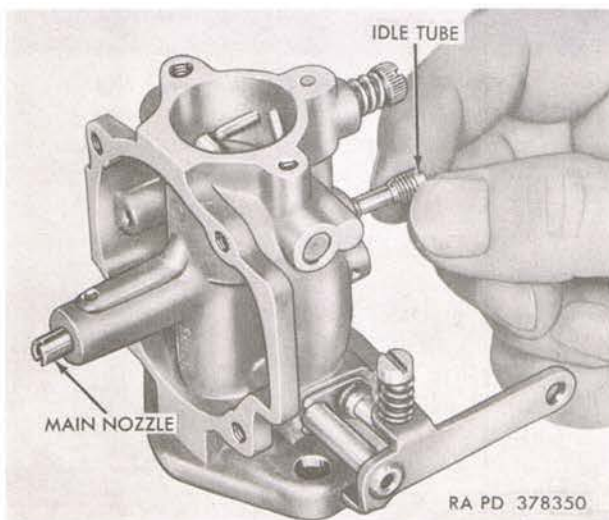

Figure 5. Removing idle tube.
a. *Remove Idle Tube.* Remove idle tube (H) from body (Q), as shown in figure 5. Remove and discard tube gasket (K).
b. *Remove Main Nozzle.* Remove main nozzle plug screw (W) and main nozzle (V) from body, as shown in figure 5.